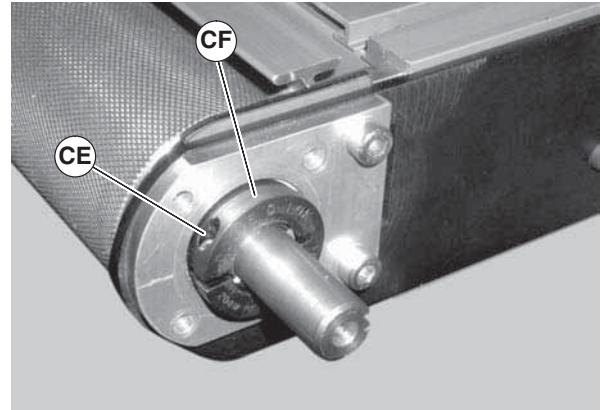

Figure 69
5. On the drive headplate, remove two (2) screws (Figure 69, item U).